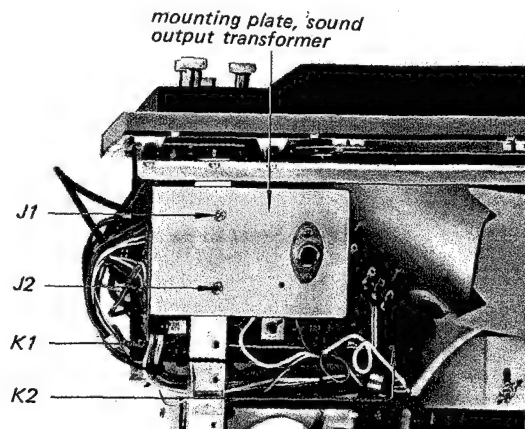

Fig. 2-13.
1. Remove the two screws labeled J1~2 in Fig. 2-13.
3. Remove the two screws labeled K1~2 in Fig. 2-13.
4. Remove the two screws labeled J1~2 in Fig. 2-13.
14. Remove the two screws labeled J1~2 in Fig. 2-13 and lift out the sound output transformer mounting plate carefully.